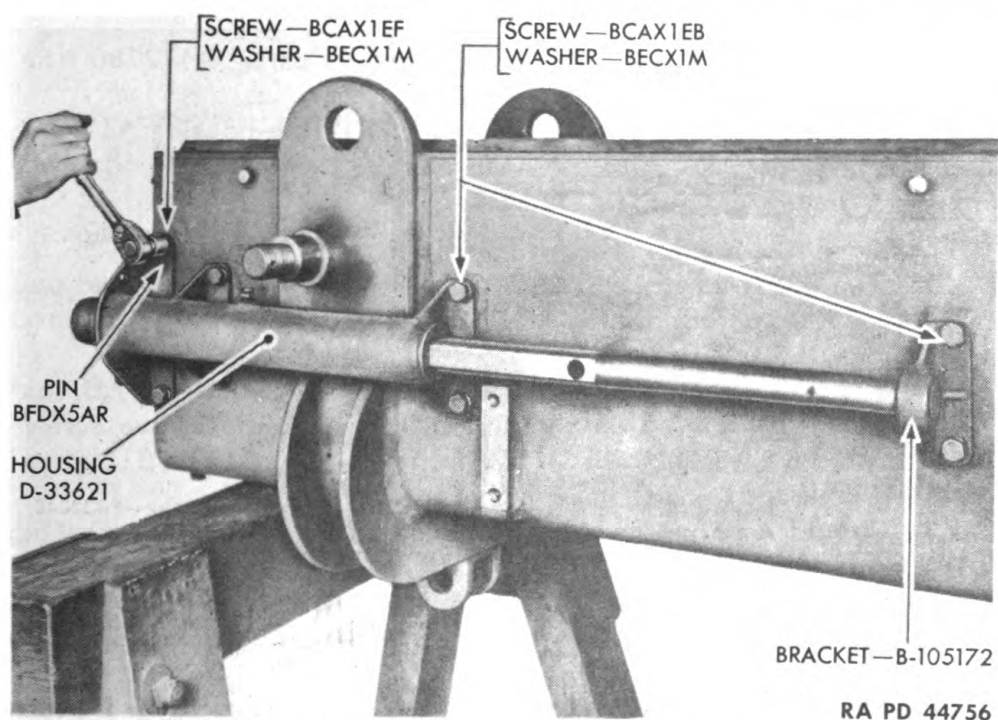

Figure 104—Removing Variable Recoil Cam Housing
(2) Remove two screws BCAX1EF, four screws BCAX1EB, and six washers BECX1M from housing D33621. Remove two screws BCAX1EB and washers BECX1M from bracket B105172, and remove variable recoil mechanism assembly (fig. 104).